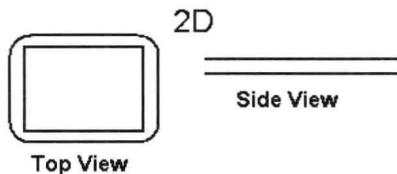

Fig.2-1 2Dimensional contours
**2Dimensional contours:** Consist of lines, arcs, and splines lying in the same construction plane. Shown as the fig.2-1.
二维外形铣削：所含的直线、圆弧和样条曲线位于同一构图平面内。见图 2-1。